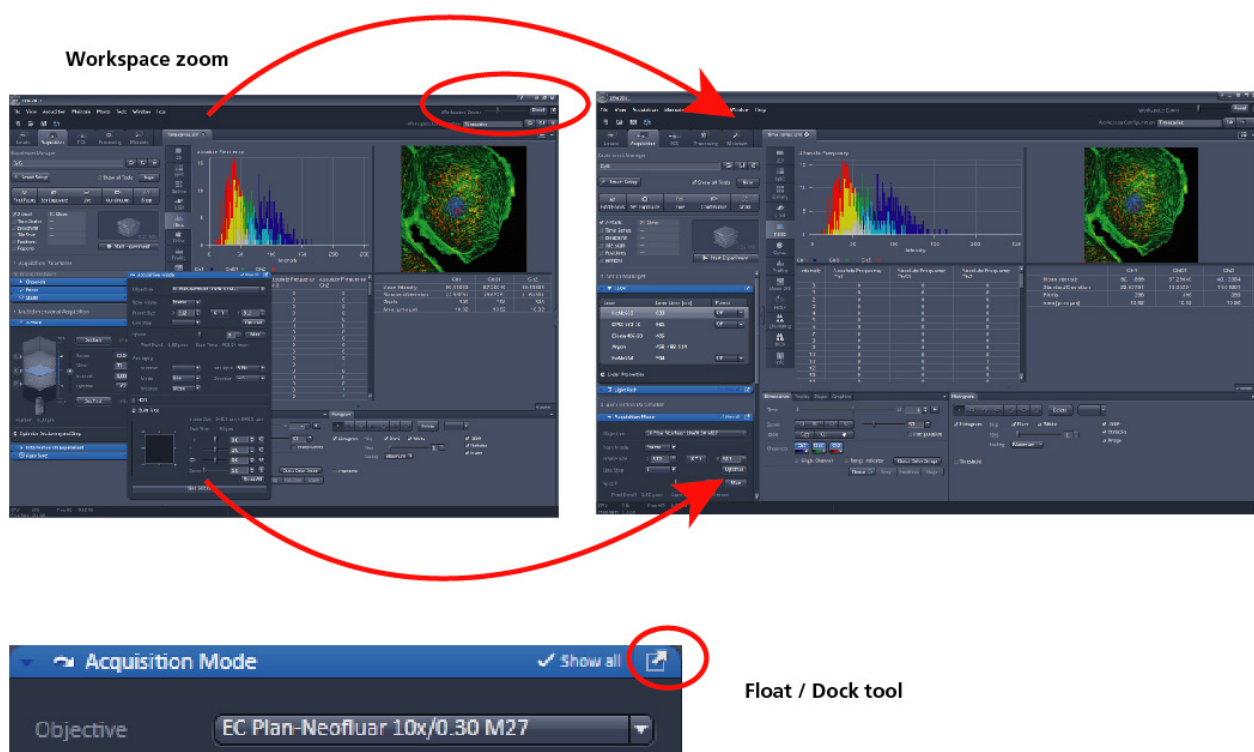

Fig. 7 ZEN Window Layout configuration
- The user can add more columns for tools to the **Left Tool Area** or detach individual tools to position them anywhere on the monitor. To add a column, drag a tool group by the title bar (e.g., Acquisition Parameter) to the right and a new tool column automatically opens. Alternatively use the context menu "Move Tool group to next column". To detach a tool, click on the little icon on the very right end of the blue tool header bar (Fig. 7).
- Another unique feature in Imaging Software is the scalable ZEN interface. This **Workspace Zoom** allows adjustment of the **ZEN 2011** window size and fonts to the situational needs or your personal preferences (Fig. 7).